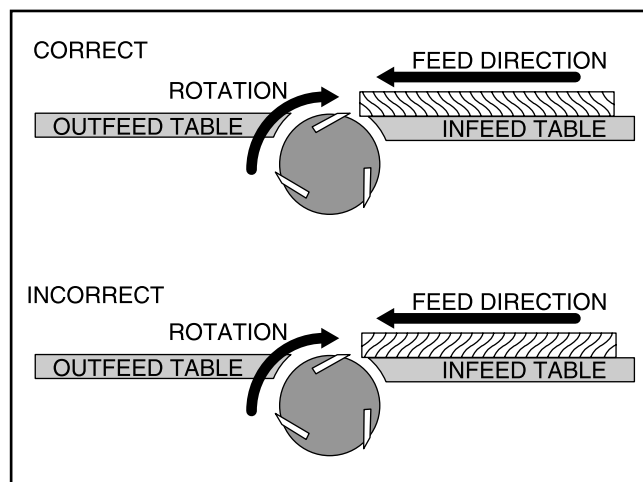

Figure 27. Correct and incorrect grain alignment to cutterhead.
- **Jointing and surface planing “with” the grain produces a better finish and is safer for the operator.** Cutting “with” the grain is best described as feeding the stock on the jointer so the grain points down and toward you as viewed on the edge of the stock (**Figure 27**). Note—*If the grain changes direction along the edge of the board, your best bet for improving cut quality is to decrease the cutting depth and make additional passes.*